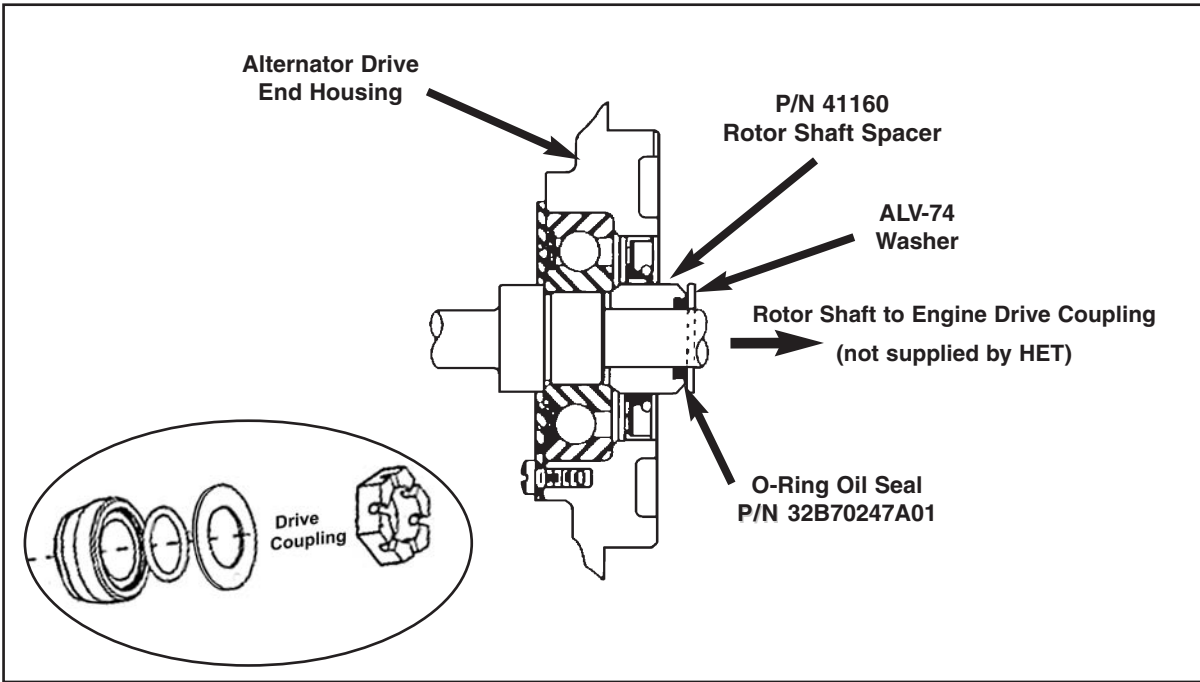
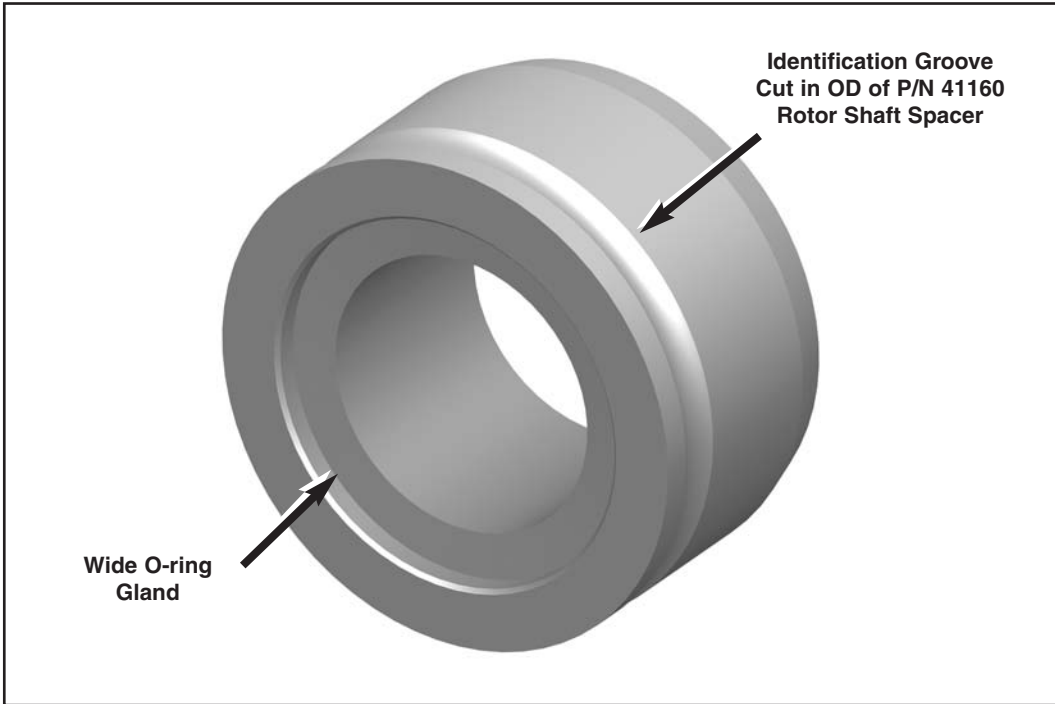

Figure 1 - ALV-9510R Alternator Rotor Shaft Spacer, O-Ring & Washer Stack
Figure 2 - P/N 41160 Alternator Rotor Shaft Spacer Identification (identification groove and wide O-ring Gland)
**NOTE:** The engine drive gear coupling is not part of the ALV-9510R alternator delivered by HET (refer to Fig 1). Continental Motors, Inc. (CMI) and other manufacturers produce the engine drive gear coupling and have instructions for removal and installation. Refer to the latest revision of CMI maintenance manual M-0 for drive coupling service information.
- (1) Remove the affected alternator from the engine in accordance with the applicable aircraft and/or engine maintenance manual or service instruction.
- (2) Remove the engine drive gear coupling from the affected alternator in accordance with the applicable engine maintenance manual or service instruction.
- (3) Disassemble the alternator only to the extent that will allow replacement of the O-ring and rotor shaft spacer. Refer to Fig. 1.
- (4) Assemble the rotor shaft spacer and O-ring on the alternator rotor shaft.
- (a) Install the new rotor shaft spacer HET P/N 41160 (will have an identification groove on the OD, refer to Fig. 2), with the O-ring gland facing outward.
- (5) Prior to installing the Engine Drive Gear Coupling, it must be inspected and found to be airworthy in accordance with the engine or coupling manufacturers latest service information.
- (6) Install the Engine Drive Gear Coupling on the affected alternator in accordance with the applicable engine maintenance manual or service instruction.
- (7) Alternator Installation